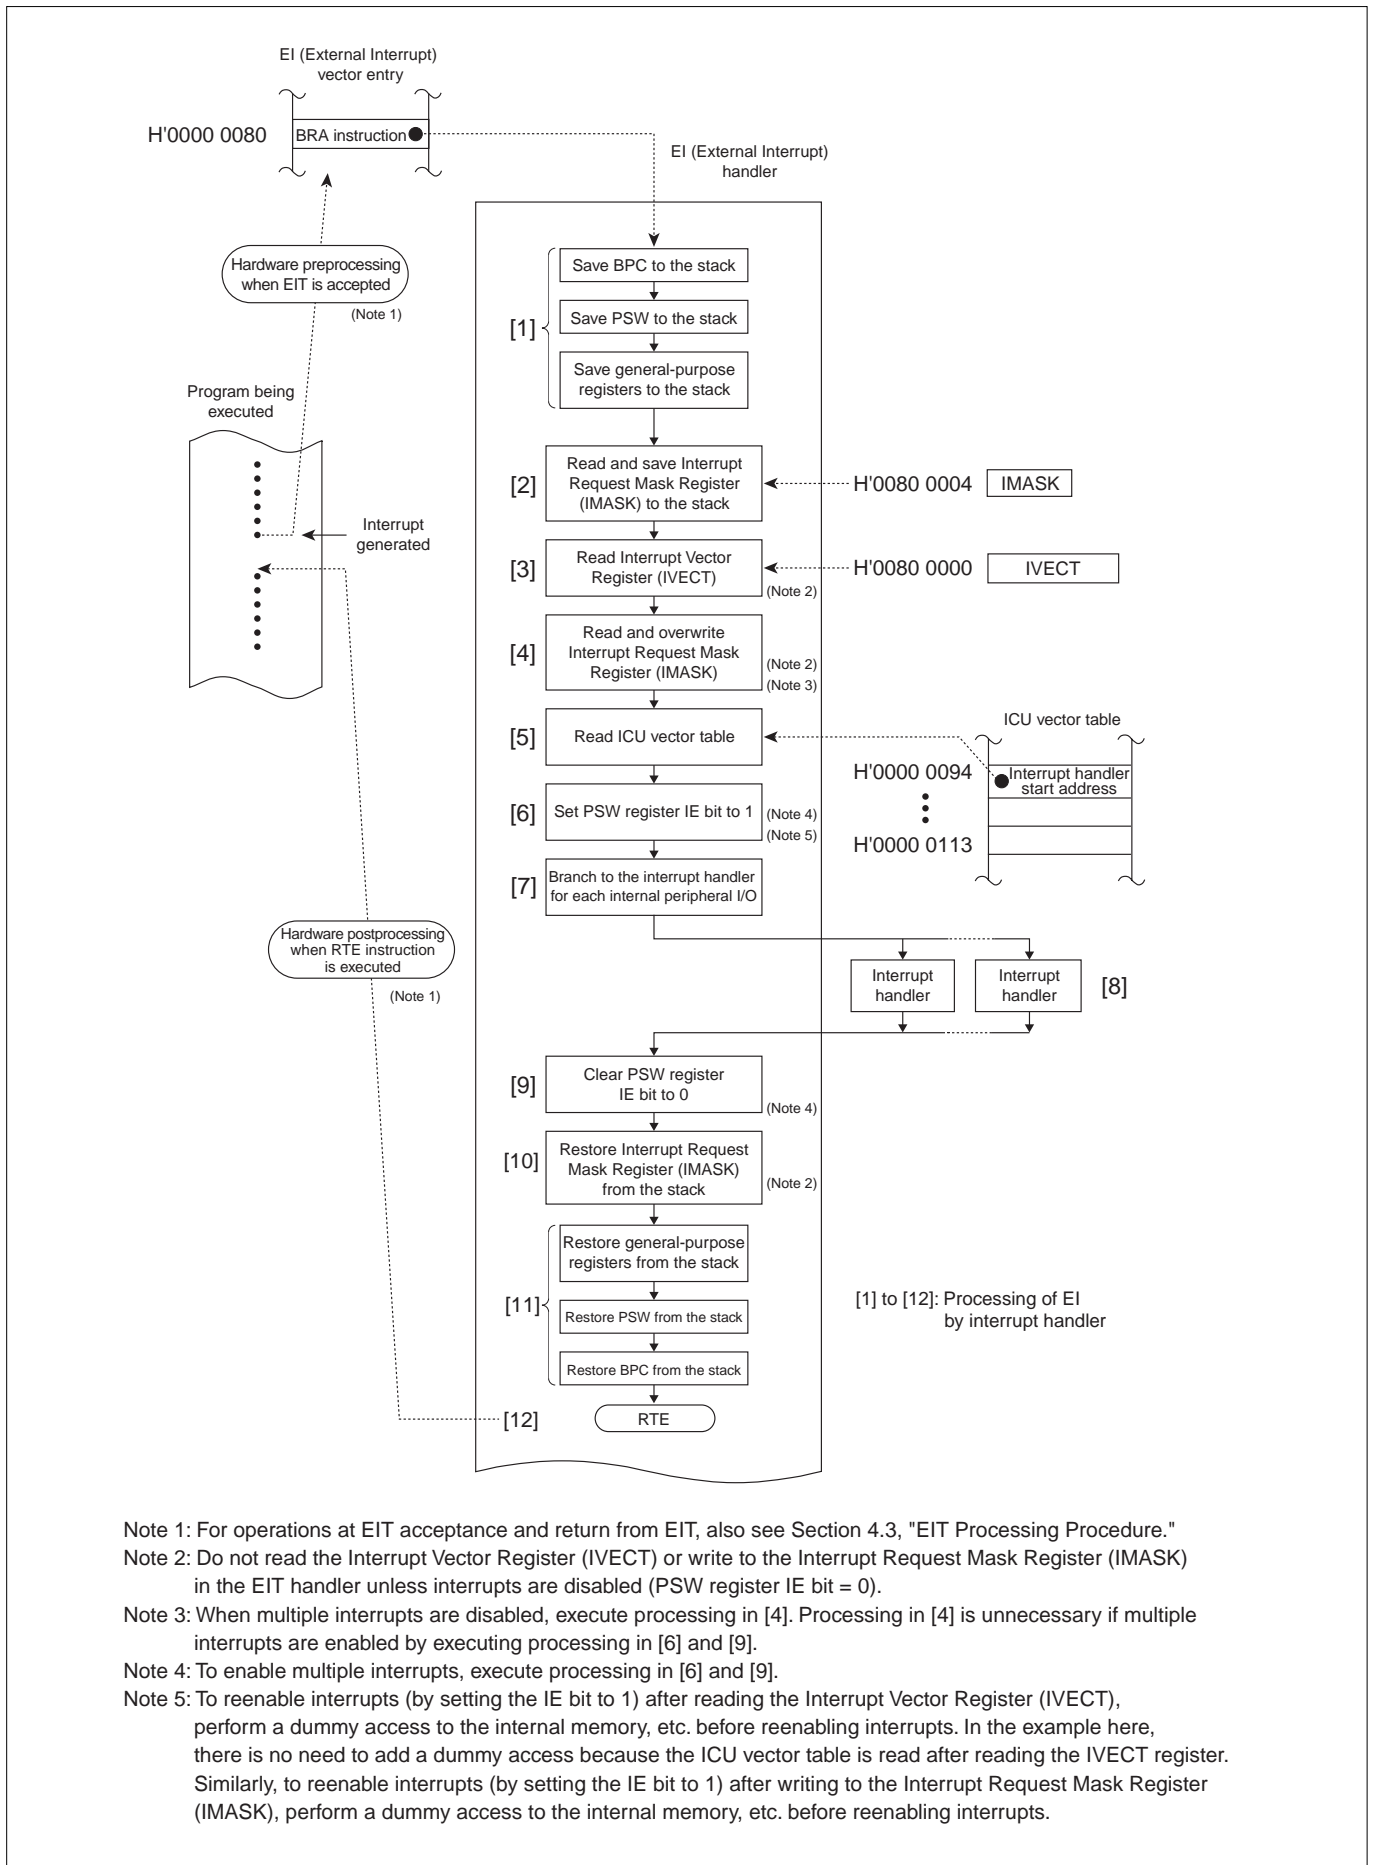

Figure 5.5.2 Typical Handler Operation for Interrupts from Internal Peripheral I/O
(2) Processing in the External Interrupt (EI) handler
A typical operation of the External Interrupt (EI) handler (for interrupts from internal peripheral I/O) is shown in Figure 5.5.2.
Note: • Before enabling multiple interrupts, read the Interrupt Vector Register (IVECT) and then the ICU vector table, as shown in Figure 5.5.2, "Typical Handler Operation for Interrupts from Internal Peripheral I/O."